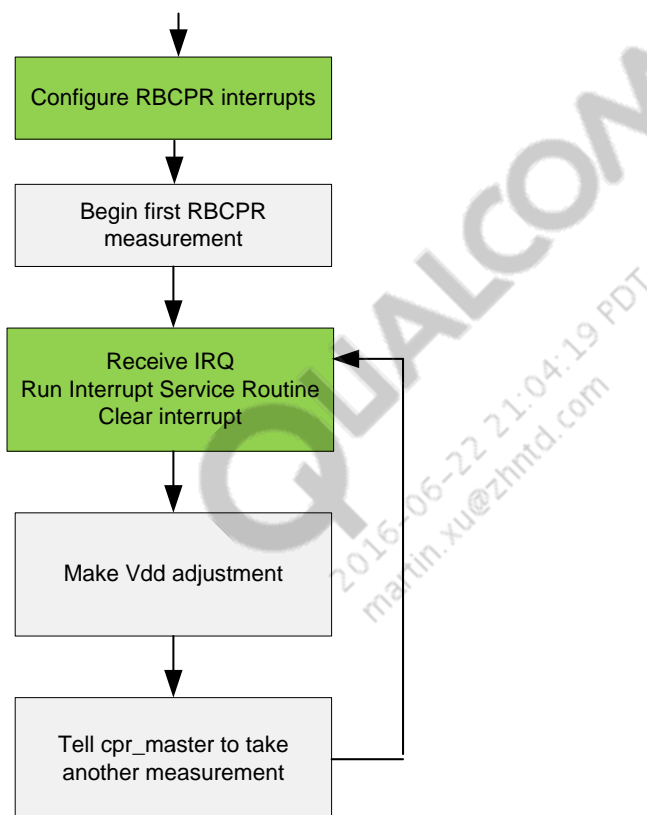

Figure 7-4 CPR measurement/adjustment
3. Notify CPR to take another RBCPR measurement. See Figure 7-4.